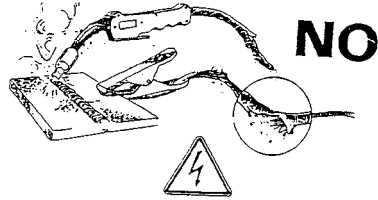

Fig.9
- Do not use damaged welding or input cables (Fig. 9);